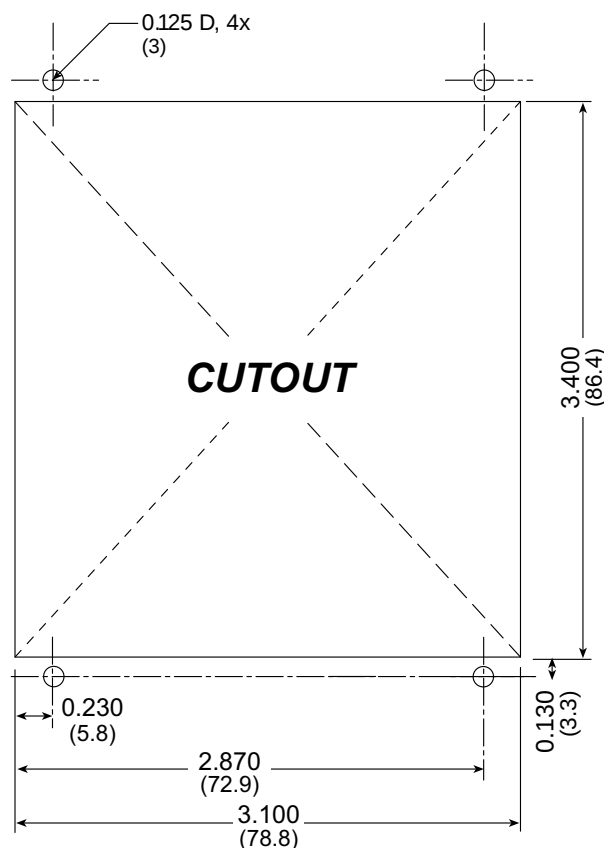

Figure B-5. Recommended Cutout Dimensions
1. Cut mounting holes in the mounting panel in accordance with the recommended dimensions in Figure B-5, then use the bezel faceplate to mount the LCD/keypad module onto the panel.